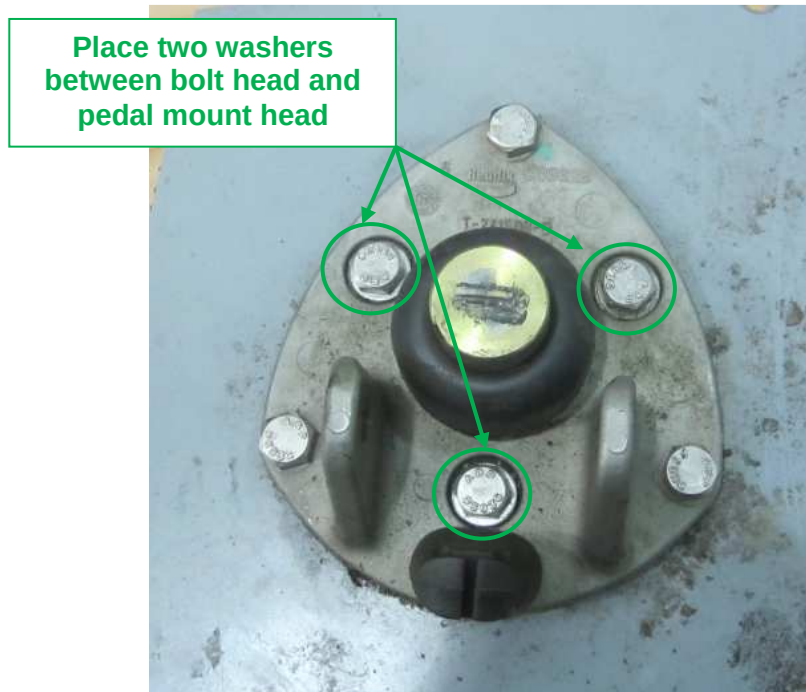

Figure 15: Pedal Mount
- ☞ **NOTE:** Place two washers between the bolt head and the pedal mount, see Figure 15.